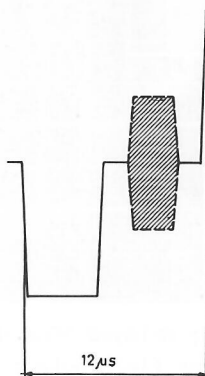

Fig. 14-5 Hor. drive delay
- Check subc output level (item 2).
- Check subcarrier phaseshift (unit 5, adjustments, item 9).
- Select "FULL-FIELD" mode, G-version: Line 17(A) signal, M-version: NTC-7 COMB.
- Check for reference bar start at $12\mu s \pm 0.2\mu s$ (measured from the leading edge of the sync pulse). See fig. 14-5.